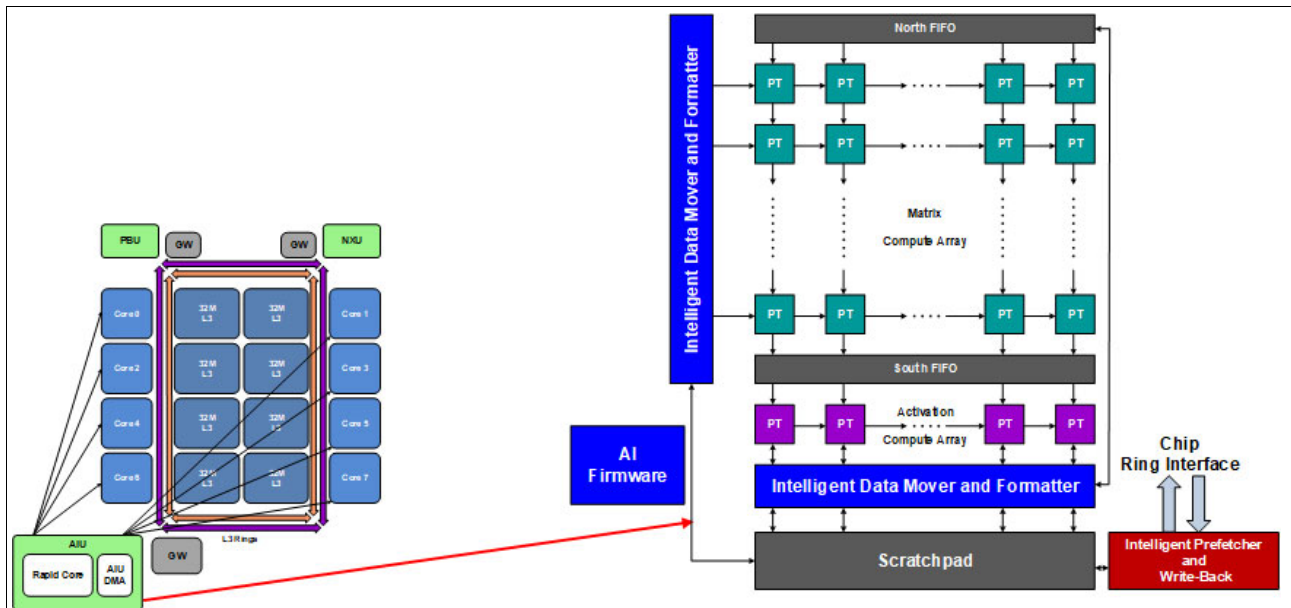

Figure B-2 AIU logical diagram
Figure B-2 shows the AI accelerator and its components: the data movers that surround the compute arrays are composed of the Processor Tiles (PT), Processing Elements (PE), and Special Function Processors (SFP).